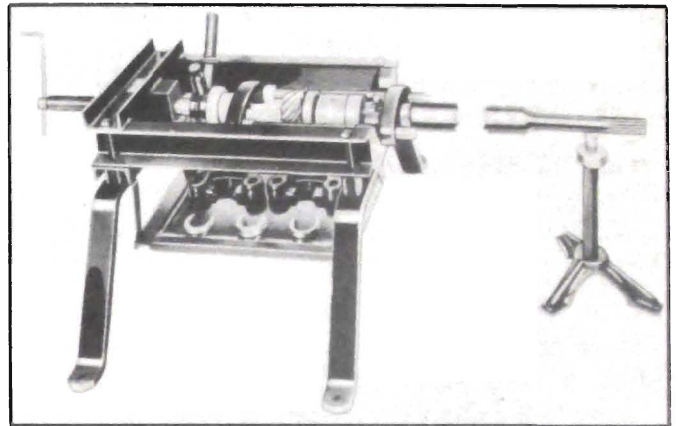

Figure 5-9—Pinion Press J 1292-B
6. Mark pinion and propeller shaft so that parts can be reassembled in the same relative position. File or cut off one end of propeller shaft coupling pin and drive out the pin, then pull propeller shaft from pinion using Press J 1292-B. See figure 5-9.
4. Dip end of pinion into sealer, then press pinion into propeller shaft until coupling pin holes are aligned, using Press J 1292-B. See figure 5-9. Pinion must not be a loose fit in propeller shaft. Install a new coupling pin and solidly rivet both ends.